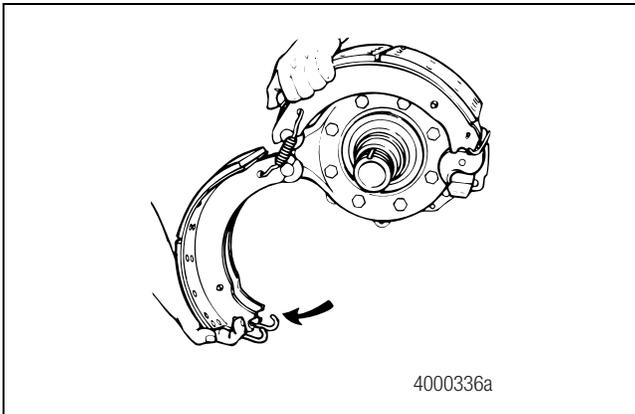

Figure 3.3
4. Rotate the bottom shoe to release the tension on the brake shoe retainer springs. Figure 3.3.